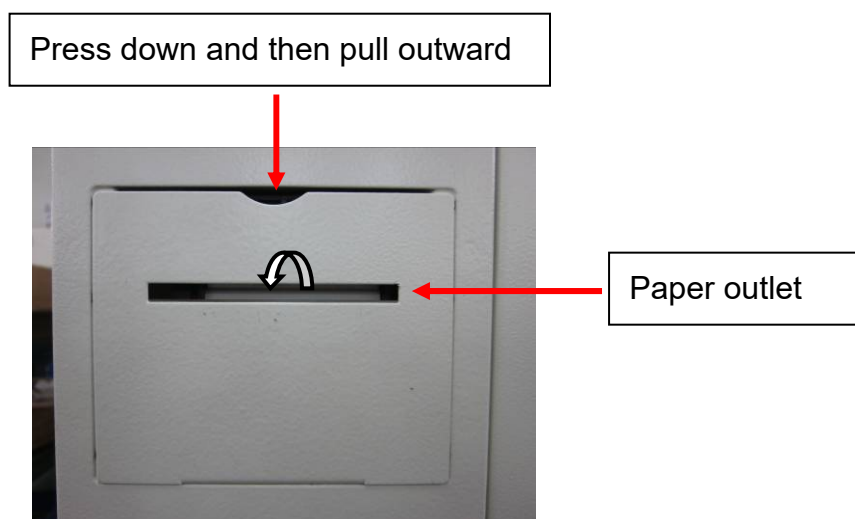

Figure 143
- B. Press down and then pull outward the rim of the printer cover (See Figure 143).